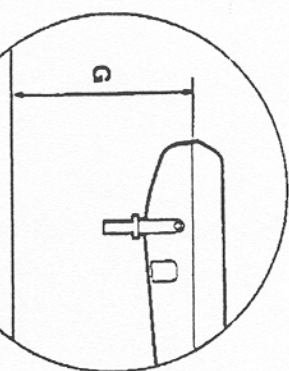

Fig. 7
- Measure dimension **G** (Fig. 7) ensuring the Autohelm actuator is horizontal.